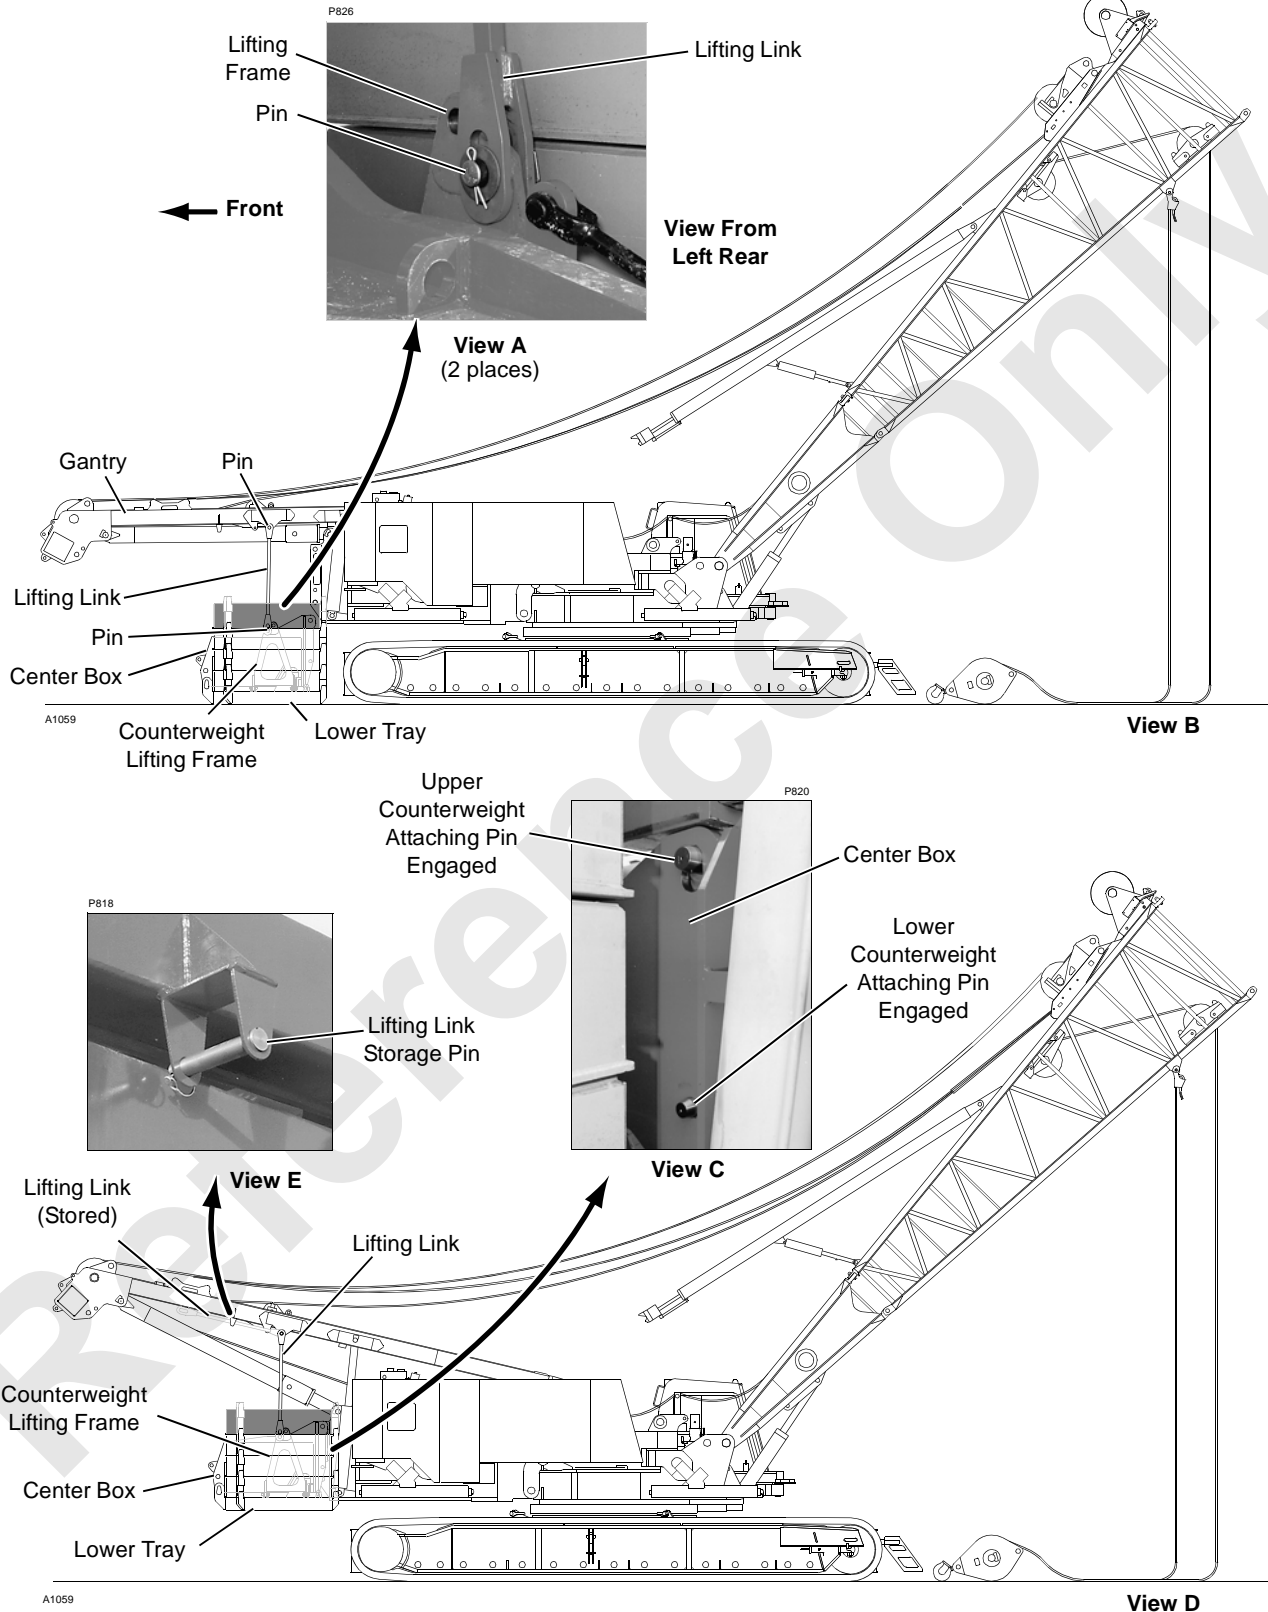

FIGURE 4-36
2. Position crane so it is in line and centered with assembled counterweight (Figure 4-36, View B).
4. Lower lifting links from stored position and pin to counterweight lifting frame. Links must be pinned to rear hole in lifting frame (Figure 4-36, View A).
6. Raise gantry and counterweight assembly with switch on setup remote control until gantry raising cylinders are fully extended (Figure 4-36, View D).
7. Engage upper counterweight attaching pins (Figure 4-36, View C). **Visually check that pins are engaged.**
9. Engage lower counterweight attaching pins (Figure 4-36, View C). **Visually check that pins are engaged.**
10. Unpin lifting links from lifting frame and store lifting links on gantry (Figure 4-36, View E).
2. Pin lifting links to counterweight lifting frame. Links must be pinned to rear hole in lifting frame (Figure 4-36, View A).
3. Disengage lower counterweight attaching pins (Figure 4-36, View C).
5. Disengage upper attaching pins (Figure 4-36, View C).
8. Unpin lifting links from lifting frame. Raise lifting links and store on gantry (Figure 4-36, View E).